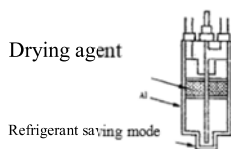

Fig. 5.2-5 Stock solution drying bottle
3. Stock solution drying bottle is installed under right front seat of the body. Stock solution drying bottle has three functions: the first is to stock the refrigerant liquid cooled by condenser; the second is to absorb dryly the refrigerant water in the system, to prevent expansion valve from icing; the third is to filtrate the contaminant of the system, to prevent expansion valve and the system from blocking. The structure of stock solution drying bottle sees Fig. 5.2-5. In order to check the refrigerant filling state and refrigeration system work condition, sight glass is set on outlet pipe of stock solution drying bottle. Technical parameters of stock solution drying bottle see Table 5.2-4